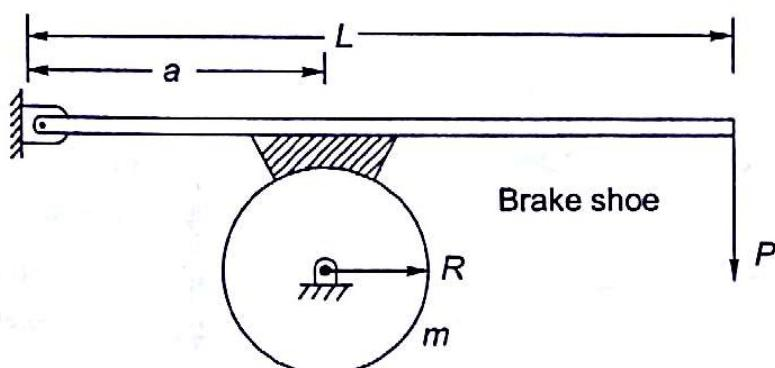

Fig. 18.14
18.3 A circular rotor of mass m and radius R which can rotate about its geometric axis is braked by the arrangement shown in the Fig. 18.14. The rotor is rotating with initial angular velocity ω , when the brake is applied. If the coefficient of kinetic friction between rotor and shoe brake is μ , in how many revolutions will the rotor come to rest?